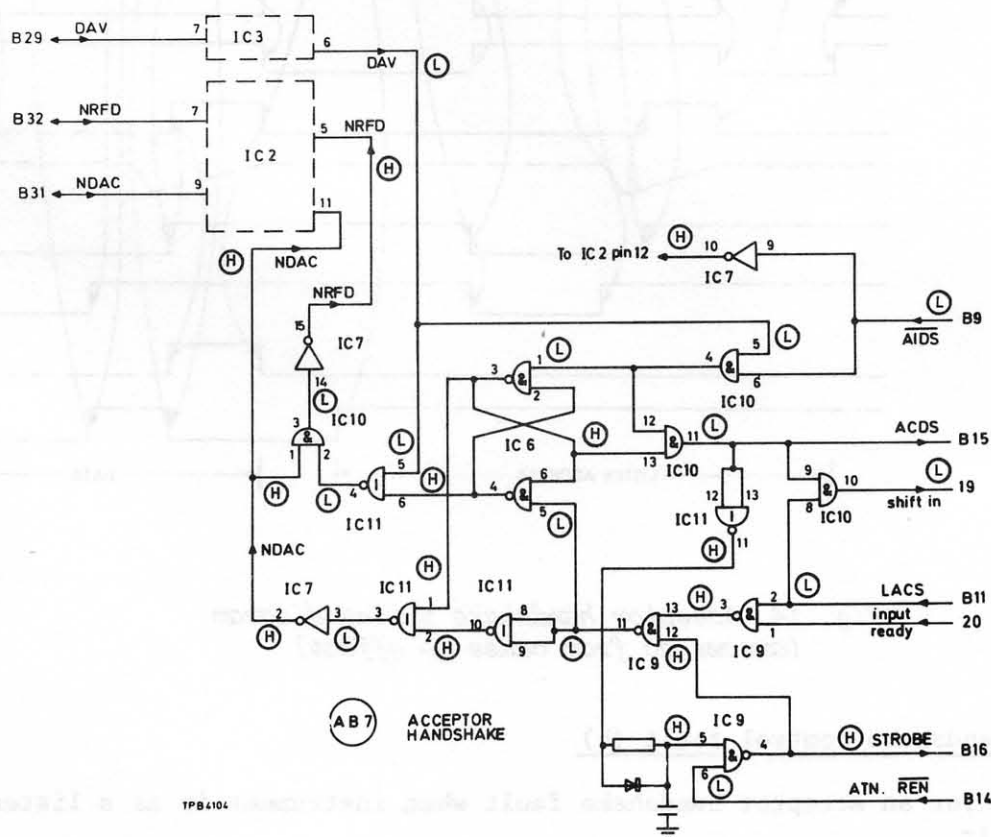

Fig. 13 'Acceptor handshake control fault (a)' logic levels
- (1) Switch off, then on to return instrument to local. Compare logic levels on AB7 B29, B32 and B31 with analyser DAV, NRFD and NDAC lamps respectively. A lamp lit corresponds with a low on the relevant contact. If not, check rear panel interconnections.
- (2) Set REN and ATN to 1. Send instrument to remote by setting DIO lines to MLA and pressing EXECUTE.
- (3) Set DIO lines to 00111111 (UNL) and press EXECUTE.
- (4) With ATN at 1 check AB7,B9 is high and AB7,B11 is low. Set ATN to 0 and check AB7,B9 and AB7,B11 are both low. If not, go to 'Listener addressed latch fault'.
- (5) Set ATN to 1 and check AB7,B14 is high. Set ATN to 0 and check AB7,B14 is low. If not, go to 'REN and ATN gating logic fault'.
- (6) Localize fault by comparing logic levels with those shown in Fig. 13.